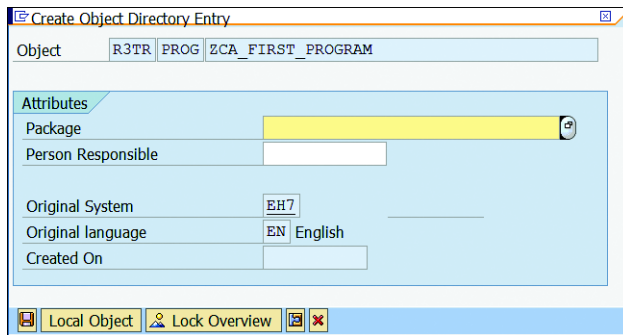

Figure 4.20 Assigning Package
5. On the CREATE OBJECT DIRECTORY ENTRY screen (see Figure 4.20), you can assign the program to a package. The package is important for transports between systems. All of the ABAP Workbench objects assigned to one package are combined into one transport request.
6. Either enter "\$TMP" as the PACKAGE and click the SAVE button or simply click the LOCAL OBJECT button (see Figure 4.20).